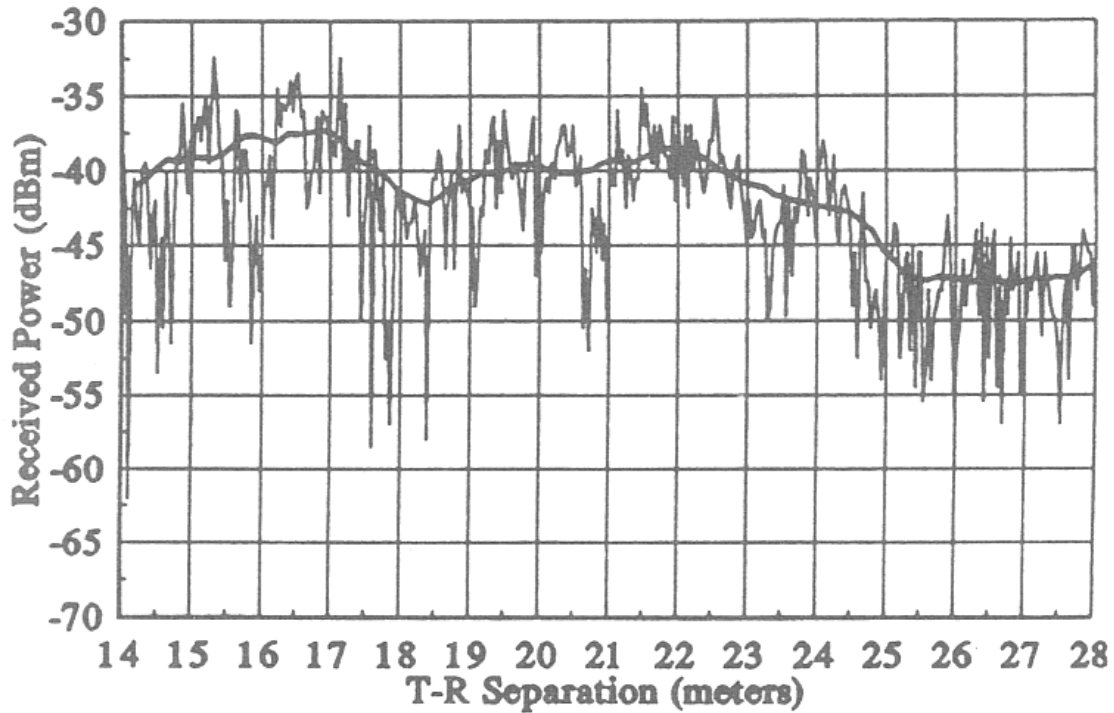

Figure 1 - Received RF Power plot indoors versus range in meters.
the materials properties section below shows) which will prove to be less than ideal. Indoors then, the simple free space model fails to account for the small and large scale fading that is observed in real world radio links as Figure 1 (ref. 1) below readily shows.